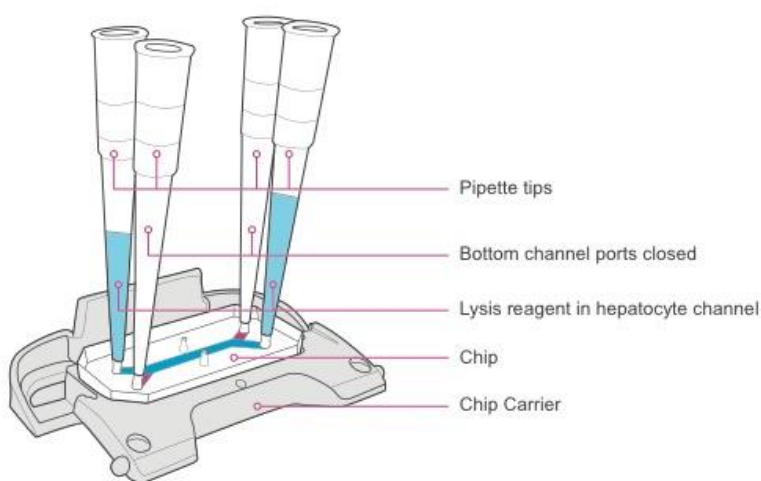

Figure 1:
- Block inlet and outlet of the channel opposite the channel of interest with empty 200 µL tips. The channel of interest is the channel that contains cells from which proteins are being extracted. For example refer to Figure 1 below.